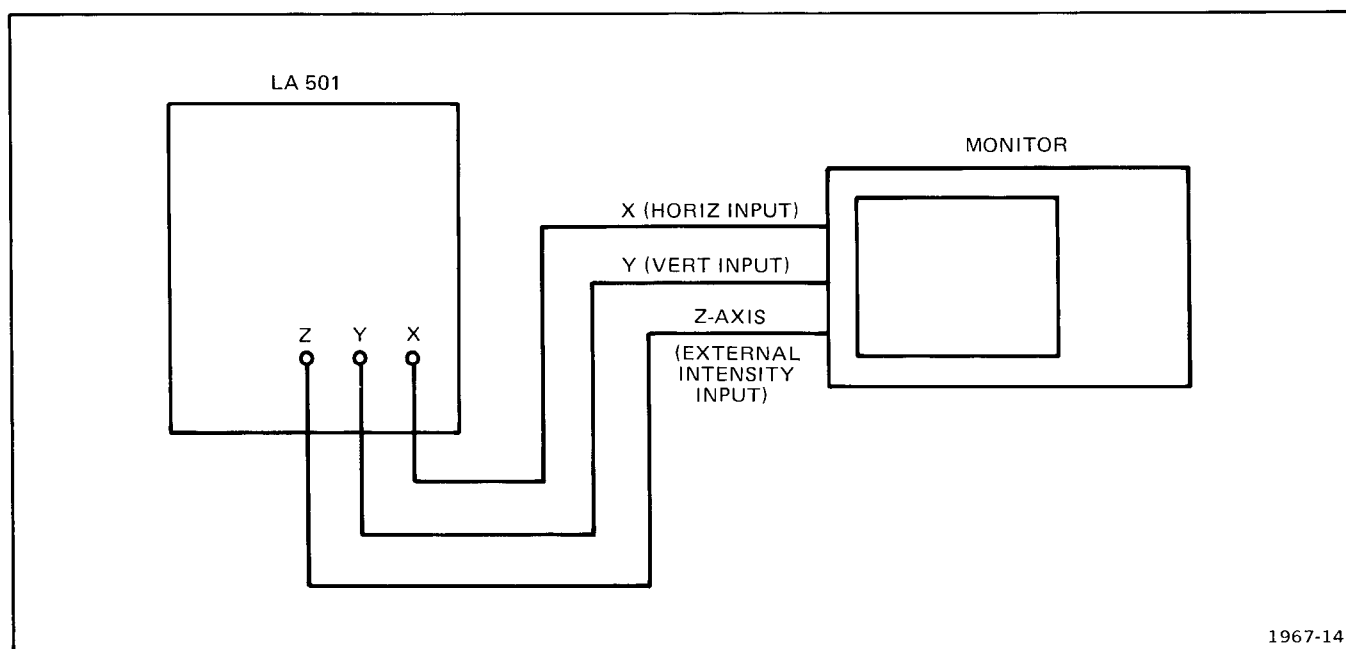

Fig. 1-5. LA 501 and monitor X, Y, and Z signal connections for Functional Check.
5. Connect cables from LA 501 to test oscilloscope as shown in Figure 1-5.
Connections from the LA 501 X, Y, and Z outputs to the oscilloscope or monitor inputs should be made with coaxial cables. Figure 1-5 shows the proper set up for operation. Check the oscilloscope or monitor instruction manual for the required Z-axis blanking polarity. Set the Blanking Polarity switch (S720) down for negative blanking, or up for positive blanking. See Figure 1-2 for the location of S720. For more information on blanking polarity selection, see Internal Switches in this section.